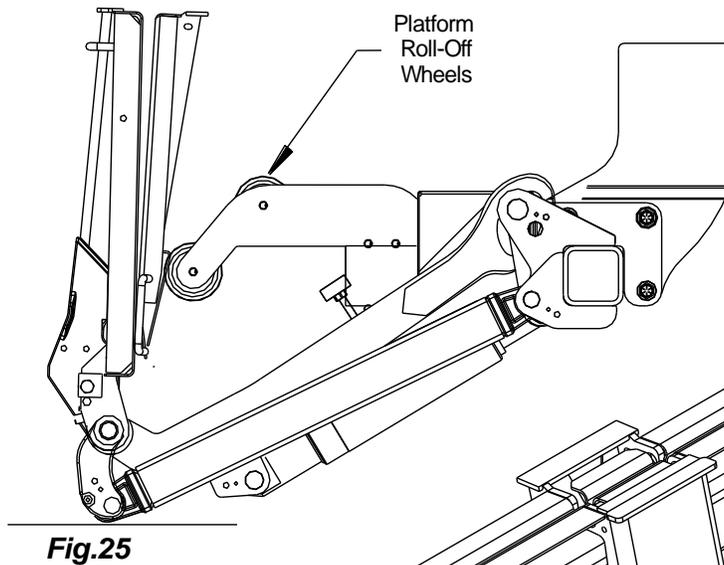
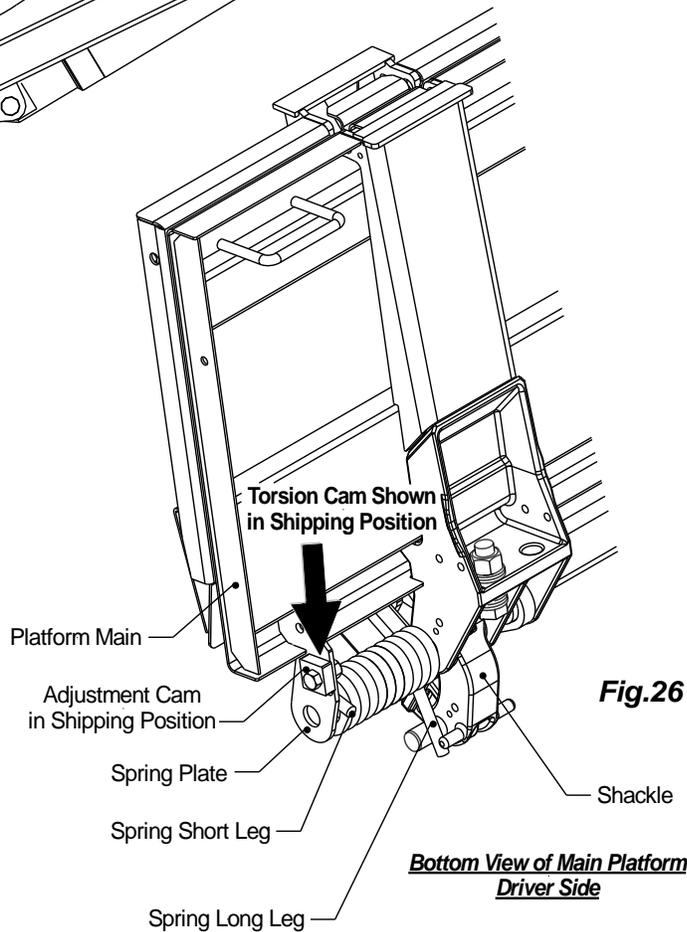

Fig.25
Fig.26
1. Torsion Cam Installation: To change the amount of platform spring assist, position the gate as shown below with the platform resting on the platform roll-off wheels and shackles contact the ground, **Fig.25**. The adjustment cam is installed with no tension when shipped, **Fig.26**. Verify that the platform has a curb and driver side cam.